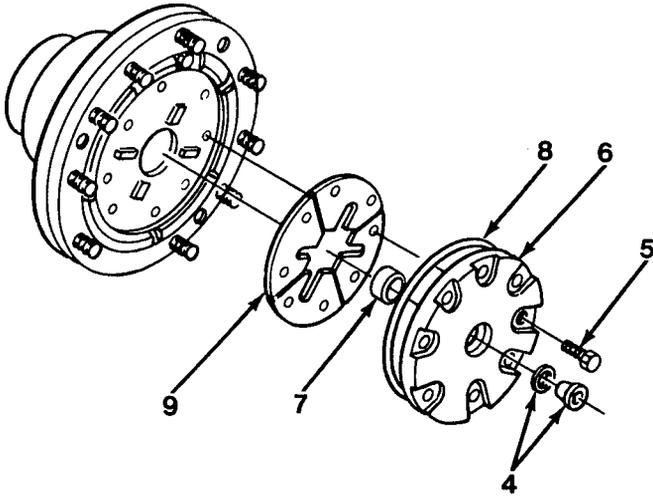

Figure 12-2
7. Remove O-ring (8) and, if necessary, thrust plug (7) from wheel end cover (6, Figure 12-2).